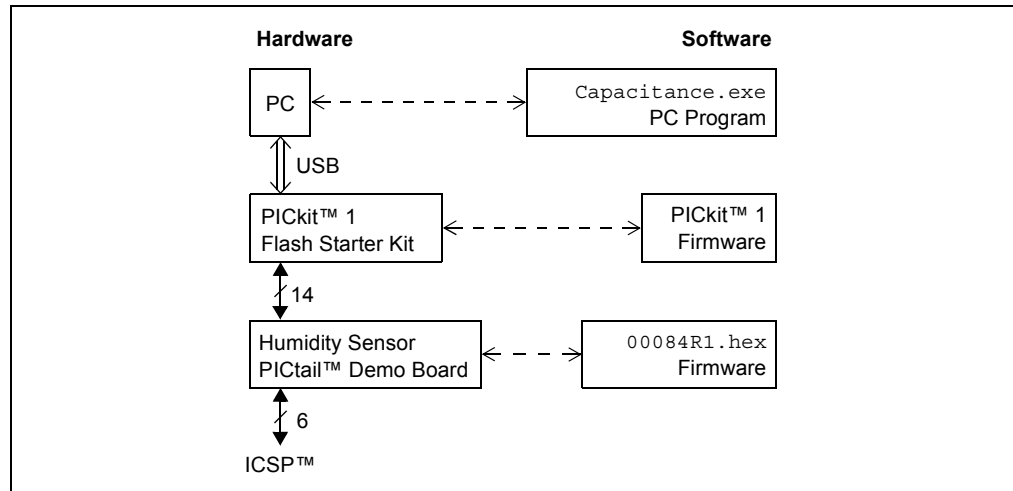

FIGURE 1-2: Measurement Set-up Block Diagram.
Figure 1-2 shows the block diagram of the hardware and software tools that the Humidity Sensor PICtail™ Demo Board is designed to work with. More information on these tools can be found in the “**Recommended Reading**” section.
The Personal Computer (PC) shown in Figure 1-2 needs to run on Windows® 98 SE or later. It provides a convenient interface for the user, communicates with the other boards and provides power through the USB connection.